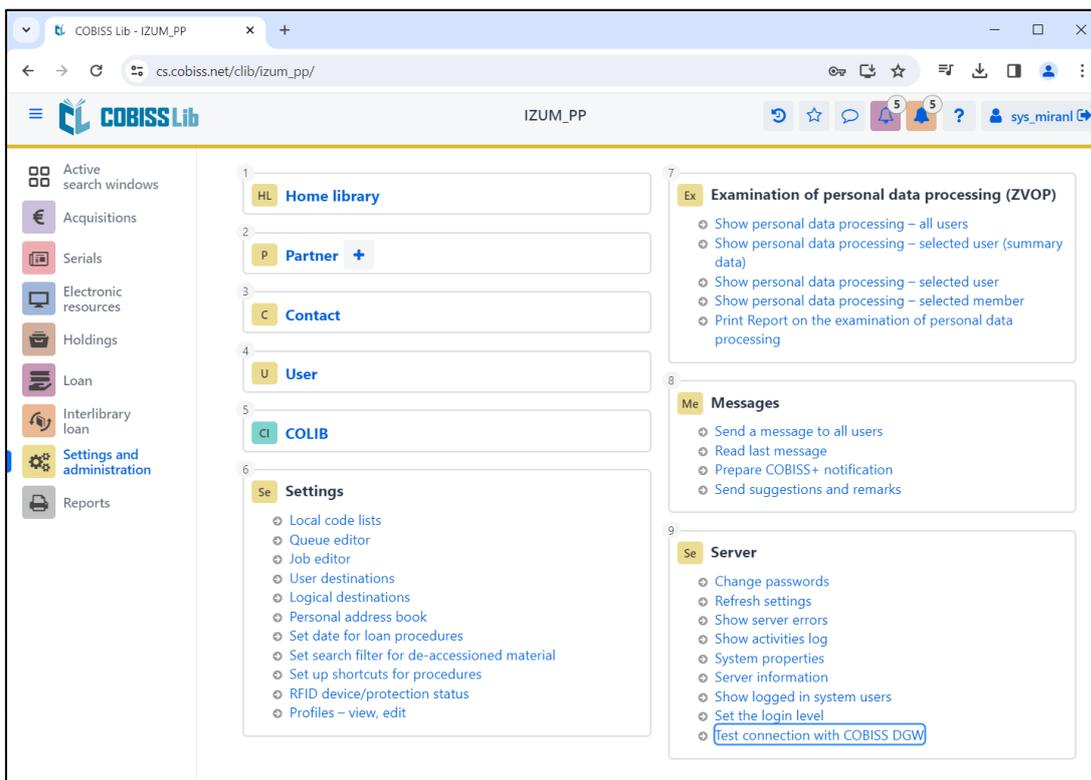

Figure 9: COBISS Lib user interface
- Figure 9: COBISS Lib user interface6
To check if the installation was successful, you can use the **Settings and administration / Server / Test connection with COBISS DGW** method in COBISS Lib. The message *COBISS DGW is connected!* means that the installation was successful and that you can continue adding printers to the logical destinations (Figure 9).